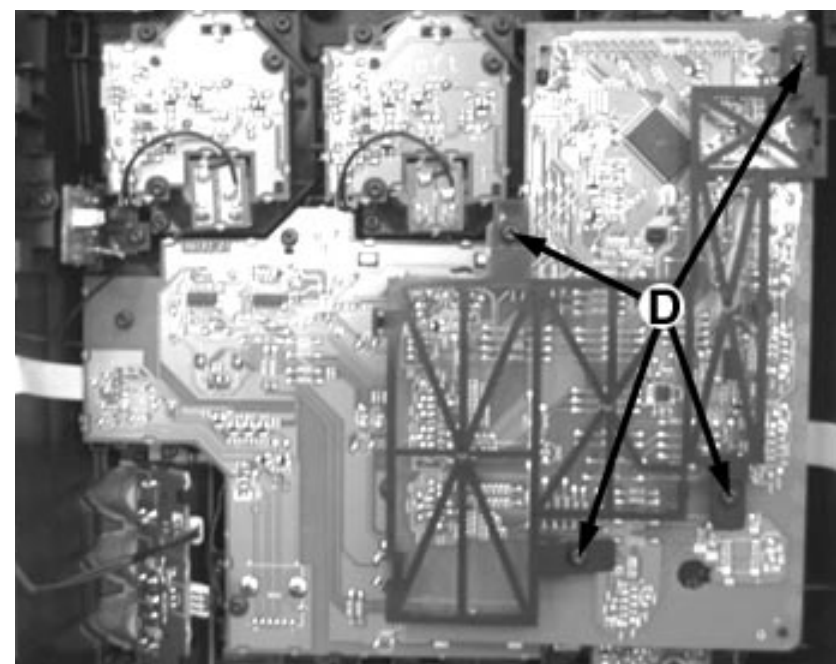

Figure 11
- 3) Loosen 4 screws D (see Figure 11) to remove the Bracket PCB Front Display (pos 183) and Front Display Board (pos 1101-A).